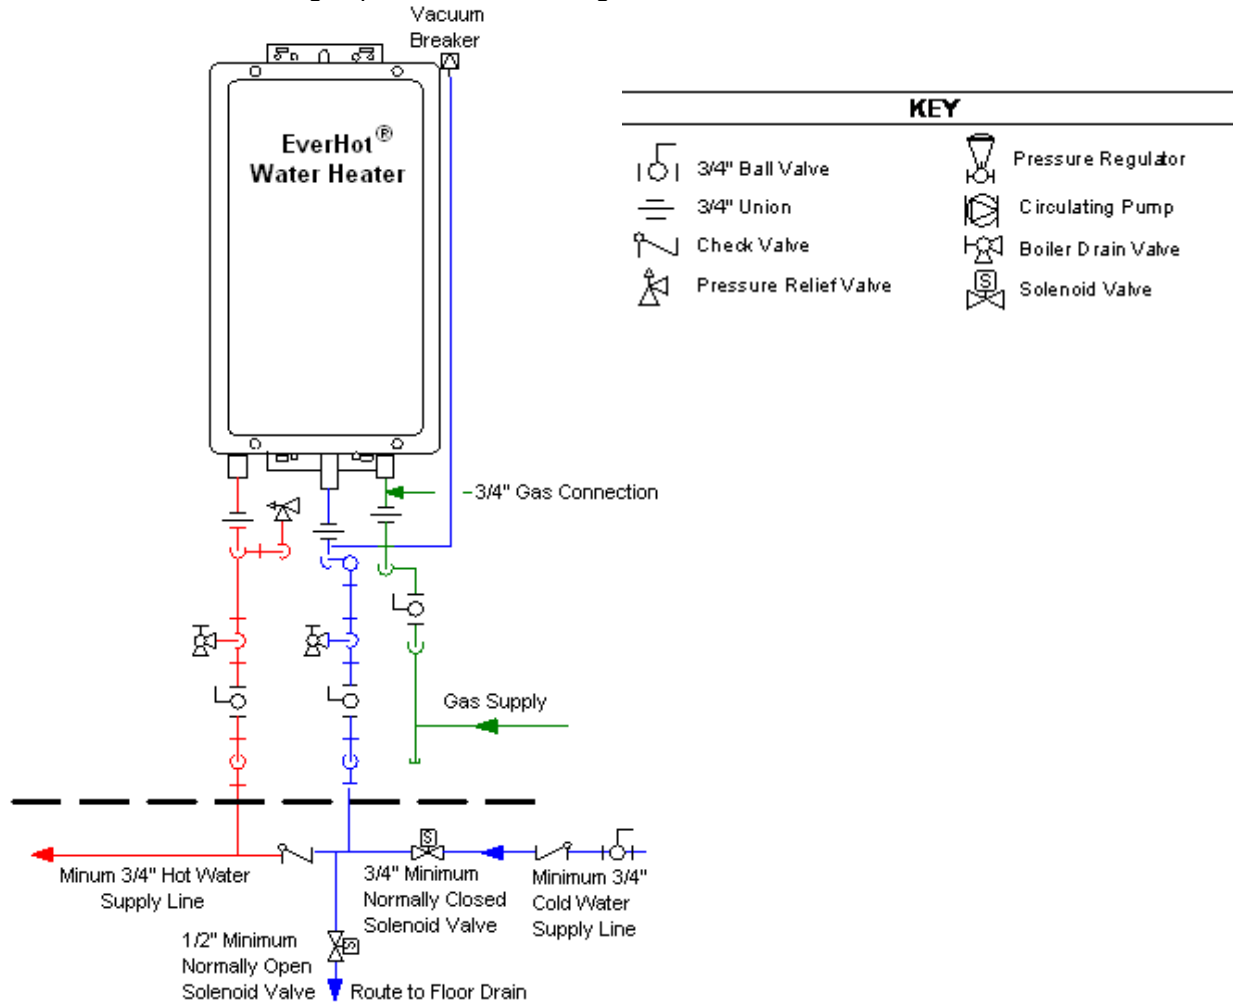

**Figure 7.** Recommended Piping for a Circulation Systems.
3. Install a pressure relief valve on a tee connection from the hot water outlet piping from the water heater. Refer to the piping diagrams (Figure 6 and Figure 7) and pressure relief valve warning in Section IV, "Water Connections."